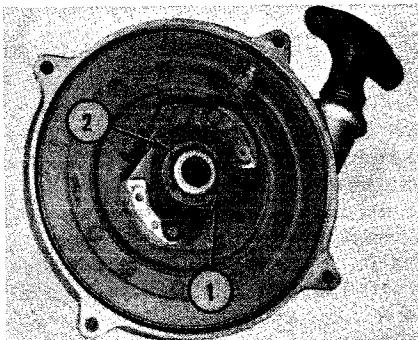
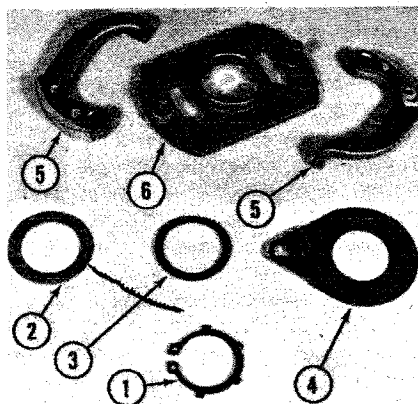
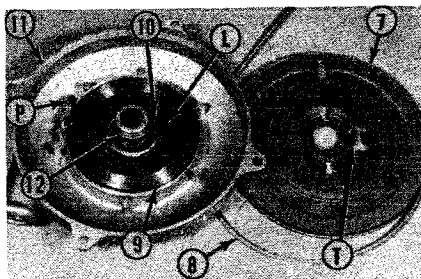

Fig. 25-Removed view of recoil starter assembly.
Fig. 26-Disassembled view of starter actuating mechanism.
Fig. 27-Cable pulley removed showing return spring correctly installed.
**RECOIL STARTER.** To disassemble starter, cut cable as close as possible to grip and allow pulley to turn slowly until spring is completely unwound. Remove snap ring (1—Fig. 25) and washers (2), then lift off the actuating assembly. Remove pulley (7—Fig. 27), leaving spring (9) in
When assembling the starter, use Fig. 27 as a guide. With inner side of housing facing upward as shown, install spring so it coils counter-clockwise beginning with outside anchor, securing loop over pin (P). Spring guide ring (10) has a section removed to provide clearance for inner spring loop (L) and a relieved outer end to provide clearance for spring rivets. Be sure guide is installed right side up as shown. Wind cable completely around pulley in the direction shown and install pulley with tab (T) engaging inner spring loop (L). Wind pulley three turns counter-clockwise before passing cable through housing hole. Reinstall handle grip to prevent re-entry of
Shims (2—Fig. 26) are in two sizes, the larger (1-inch ID) being placed on top of pulley (7—Fig. 27) and underneath lever plate (6—Fig. 26). These shims are available in thicknesses of 0.15, 0.3, 0.5 and 0.8 mm (0.006, 0.012, 0.020 and 0.032 inch), and shim pack should be of correct thickness to permit top hub flange of carrier (6) to ride 0.1-0.2 mm (0.004-0.008 inch) below shoulder of sleeve (12—Fig. 27). Install lever plate (6—Fig. 26), levers (5) and brake disc (4). Install wave washer (3)